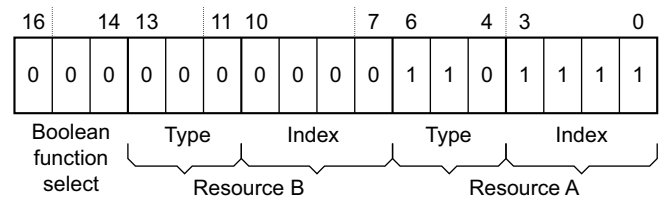

Figure 3-80 ETMTEEVR example
1. Program ETMTEEVN as Figure 3-80 shows.
The encoding in Figure 3-80 selects Boolean function A, together with external input 16. This permanently enables the **TraceEnable** event.